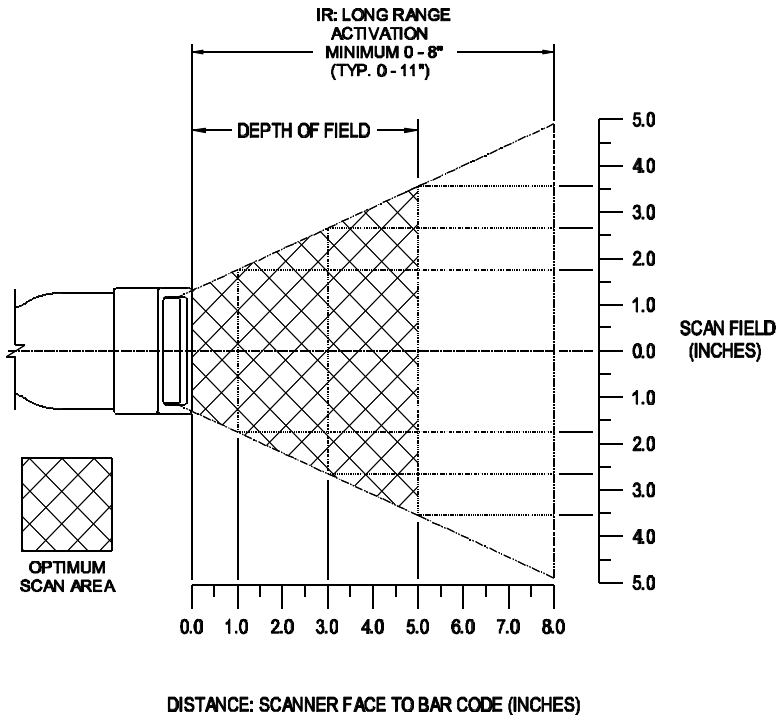

Figure 3
The scanning process is initiated by an infra red (IR) device that is found below the laser output window. The signal it projects extends approximately eight (8) inches beyond the output window (*Refer to Figure 3*). The IR device remains active as long as power is applied to the unit.